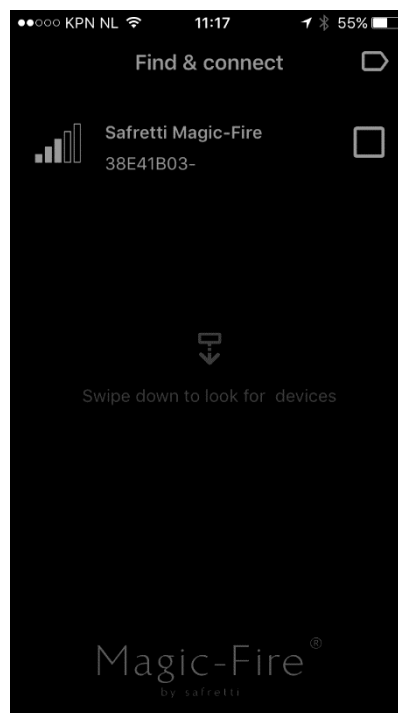

Fig. 3
- If the device has been found, you will see the name “Safretti Magic-Fire” appearing on the screen (see fig. 3 below).
Attention: it is not possible to connect several smartphones or tablets with the appliance at the same time. You first have to log-out (see fig. 3: click on the name “Safretti Magic-Fire”, so the checkmark disappears) to be able to connect another smartphone or tablet.